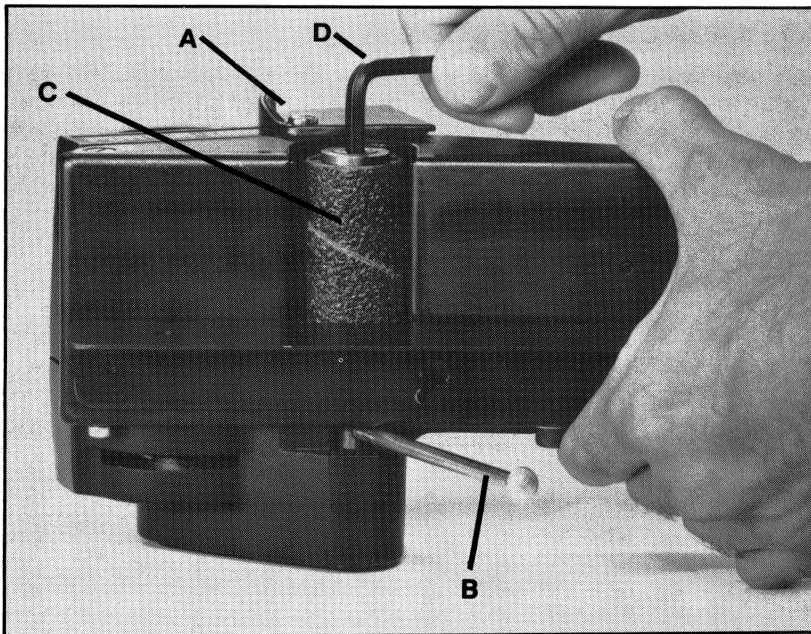

Fig. 1
1. Swing guard (A) up, as shown in Fig. 1.
2. Insert lock pin (B) into arbor shaft, as shown in Fig. 1.
3. Slip abrasive (C) onto arbor as shown in Fig. 1.
5. Insert wrench (D) Fig. 1, in screw head and turn counterclockwise. The screw has a left hand thread. Tighten screw firmly.
6. Swing guard (A) Fig. 1, down to close opening and prevent bodily contact with the outer end of the abrasive. Tighten screw on guard firmly.
7. Remove shaft lock pin (B) Fig. 1.